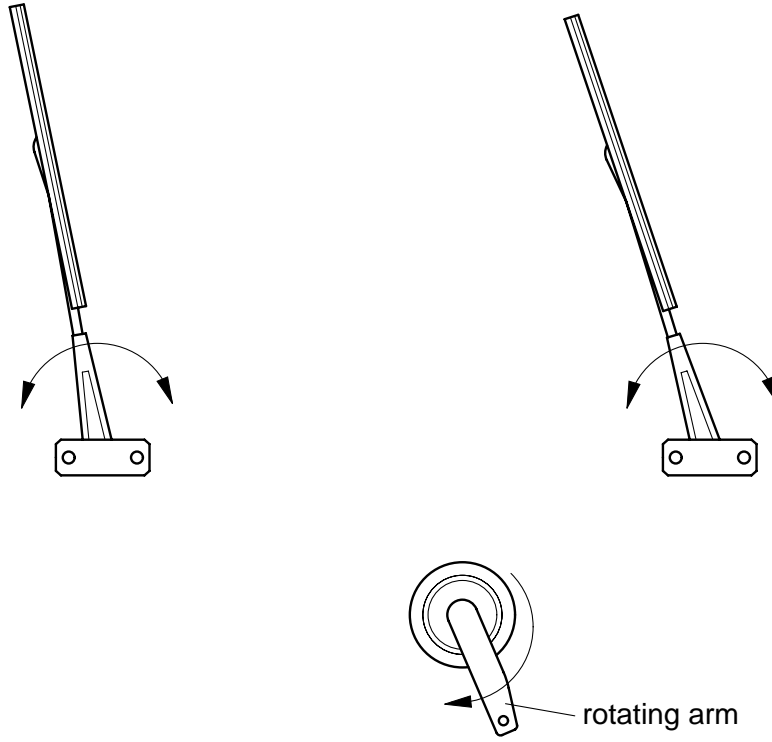

Fig. 4
- 5 Make an annotated sketch of a mechanical system that could be used to change the rotary motion of the arm into the oscillating movement of the windscreen wipers shown in Fig. 4. [8]